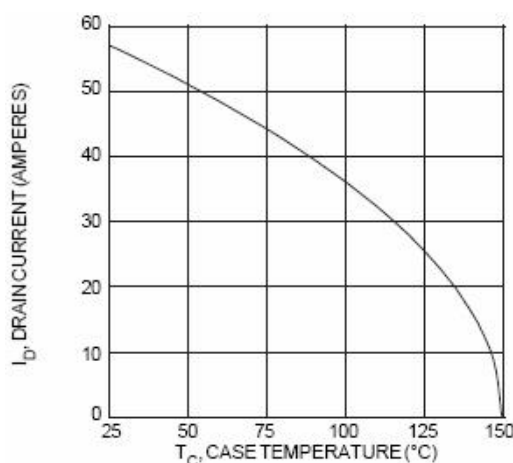

Figure 6 Maximum Drain Current vs. Case Temperature, APT50M75B2LL
This graph is simply the solution to (2) over a range of case temperatures. Switching losses are not included. Figure 6 shows an example. Note that in some cases, the package leads limit the continuous current (switched current can be higher): 100 Amps for TO-247 and TO-264 packages, 75 Amps for TO-220 package, and 220 Amps for the SOT-227 package.